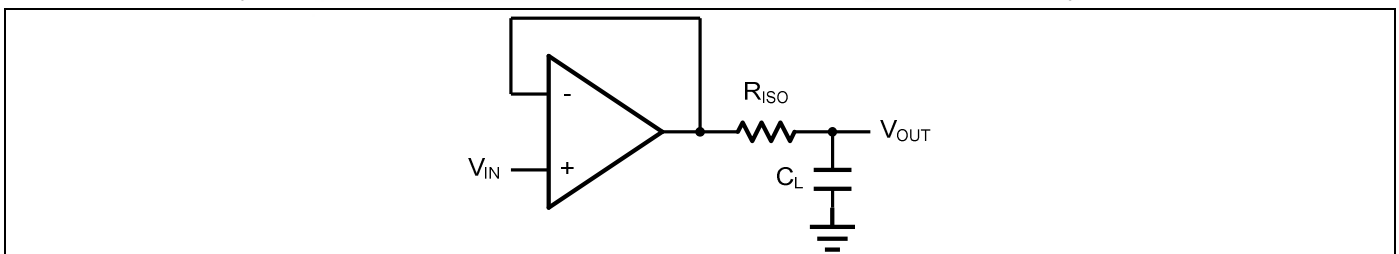
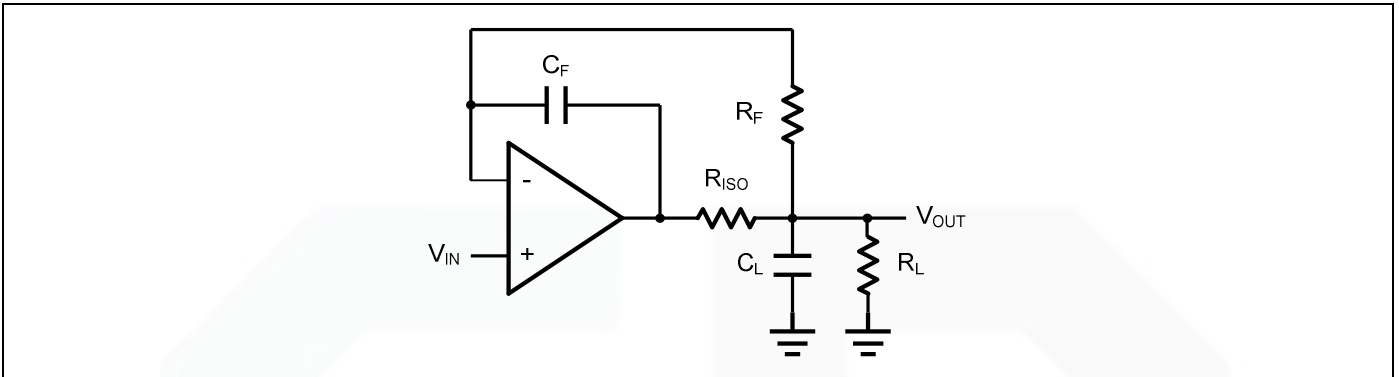

Figure 2. Indirectly Driving a Capacitive Load Using Isolation Resistor
Figure 3. Indirectly Driving a Capacitive Load with DC Accuracy
The GS8622/24 family is optimized for bandwidth and speed, not for driving capacitive loads. Output capacitance will create a pole in the amplifier's feedback path, leading to excessive peaking and potential oscillation. If dealing with load capacitance is a requirement of the application, the two strategies to consider are (1) using a small resistor in series with the amplifier's output and the load capacitance and (2) reducing the bandwidth of the amplifier's feedback loop by increasing the overall noise gain. Figure 2. shows a unity gain follower using the series resistor strategy. The resistor isolates the output from the capacitance and, more importantly, creates a zero in the feedback path that compensates for the pole created by the output capacitance.
The circuit in Figure 3 is an improvement to the one in Figure 2. R_F provides the DC accuracy by feed-forward the V_{IN} to R_L . C_F and R_{ISO} serve to counteract the loss of phase margin by feeding the high frequency component of the output signal back to the amplifier's inverting input, thereby preserving the phase margin in the overall feedback loop. Capacitive drive can be increased by increasing the value of C_F . This in turn will slow down the pulse response.